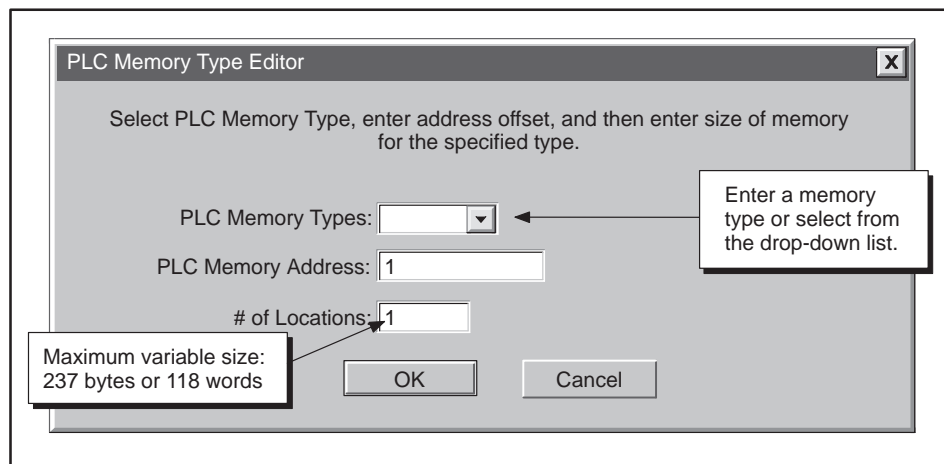

Figure 5-21 PLC Memory Type Editor Dialog Box
**Local Address** Enter the location where the FMS CP module retrieves the data it is transmitting or stores the data it receives during the job. The local address consists of the programmable controller memory type (V, K, X, Y, etc.), the starting address, and the number of locations (the configurator automatically calculates them as a bit, byte, or word, based on the memory type selection). When you click on the Local Address field, a button appears. Click on the button, and the dialog box shown in Figure 5-21 appears. Fill in the fields in the dialog box to complete the local address. Then select OK. (You can also enter an address manually; for example, V1, 1.)